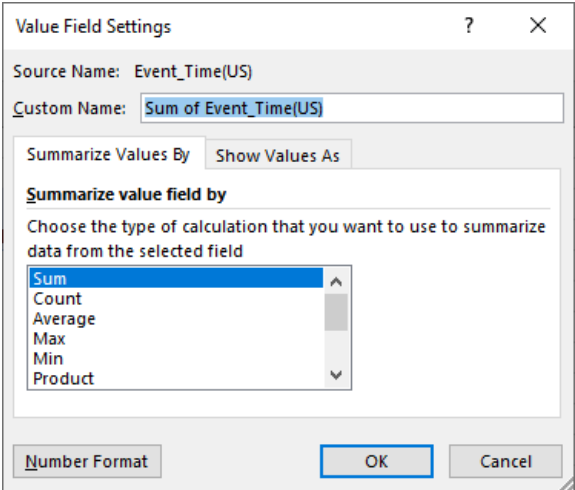

Figure 1-11: Value Field Settings to Sum of Event Time
7. In the **Values** field in the Pivot Table Fields, Click on **Sum of Event Time (US)** and select **Value Field Settings** as shown Figure 1-11.